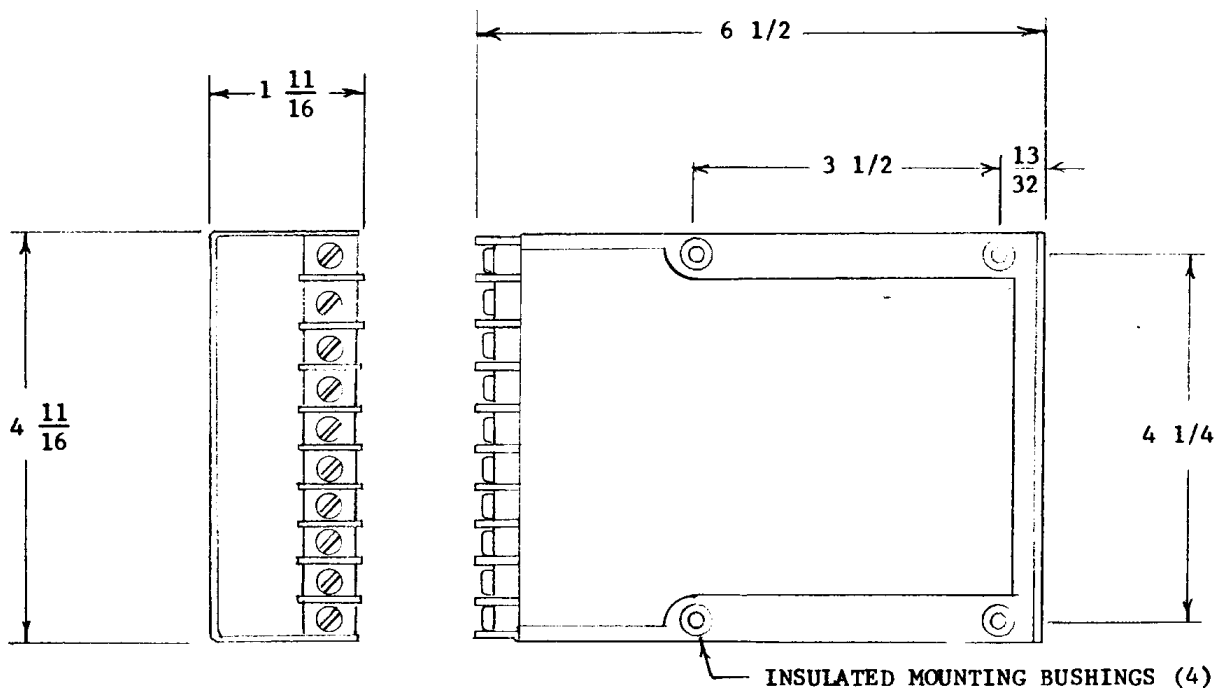

Figure 3-1
- 3.2 The mounting bushings are spaced according to Devar Inc. module mounting standards. This permits the use of available hardware for installation with Devar Inc. modules and multi-channel rack cabinets. It can also be wall mounted by either M31 or M32 Bracket Assembly. (See Figures 3-1, 3-2 and 3-3.)